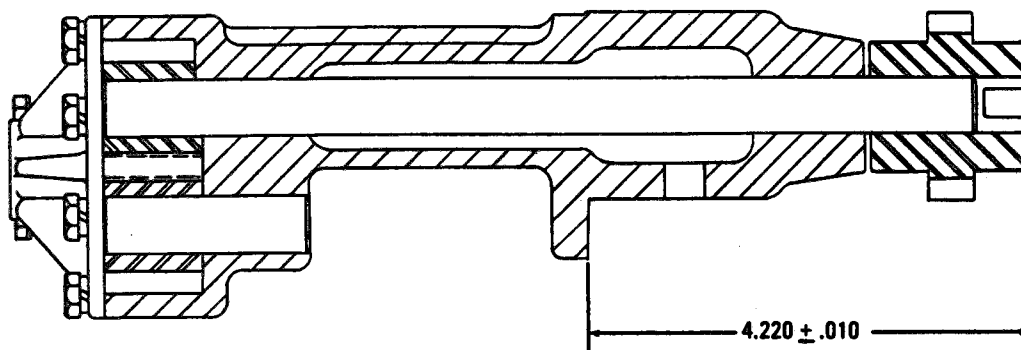

Figure 3-7. Oil Pump Drive Gear Installation Dimensions
b. Insert shaft and impeller assembly into the pump body (2). Press drive gear (6) onto shaft. Replace gear that can be pressed onto shaft with less than 35 pounds gauge pressure. Press gear onto shaft to dimensions shown in figure 3-7.